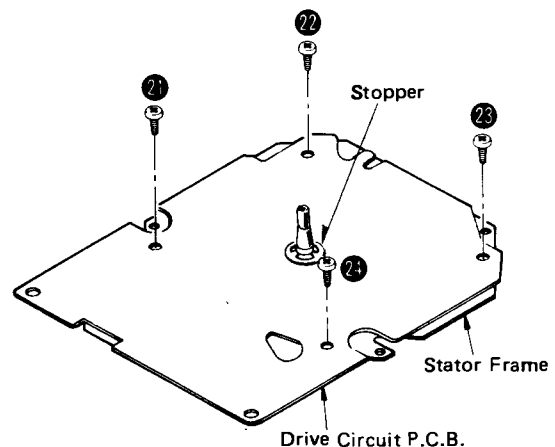

Fig. 10
4. Cut off the stopper by nippers and remove the 4 setscrews (Fig. 10: ㉑ ~ ㉓) to separate the drive circuit P.C.B. and stator frame.